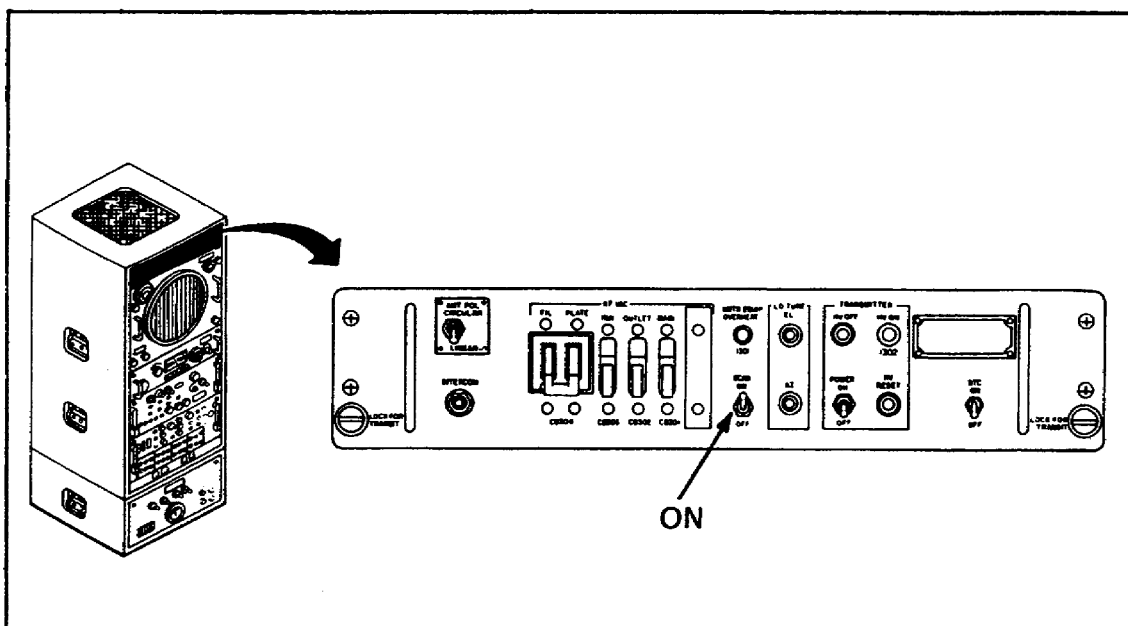

Figure 33. Panel, power distribution SB-1116/FPN-40.
j. Place SCAN switch S305 to ON. (See Figure 33.)